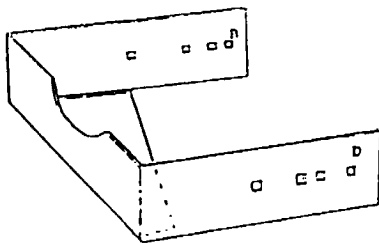
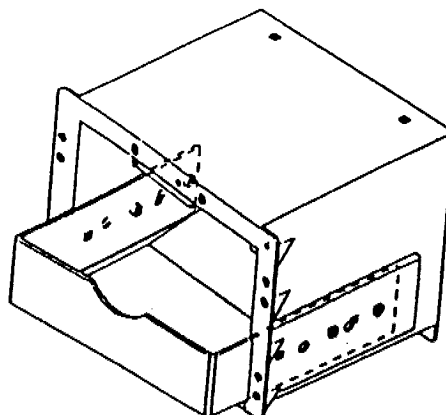

Figure 3A
Figure 4
3. Install extended discharge member so holes B & D (see figure 3A or 3B) line up with the back holes in the delivery port (see figure 4).
4. Figure 4 shows what the set-up should now look like.